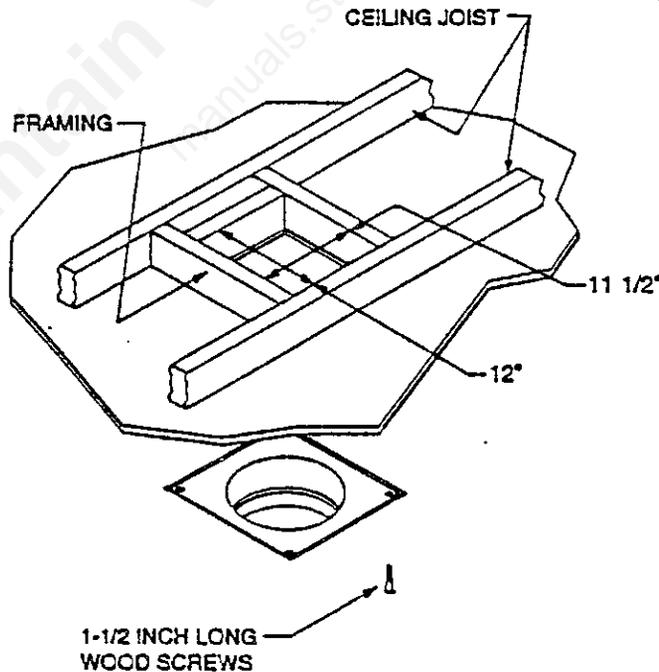
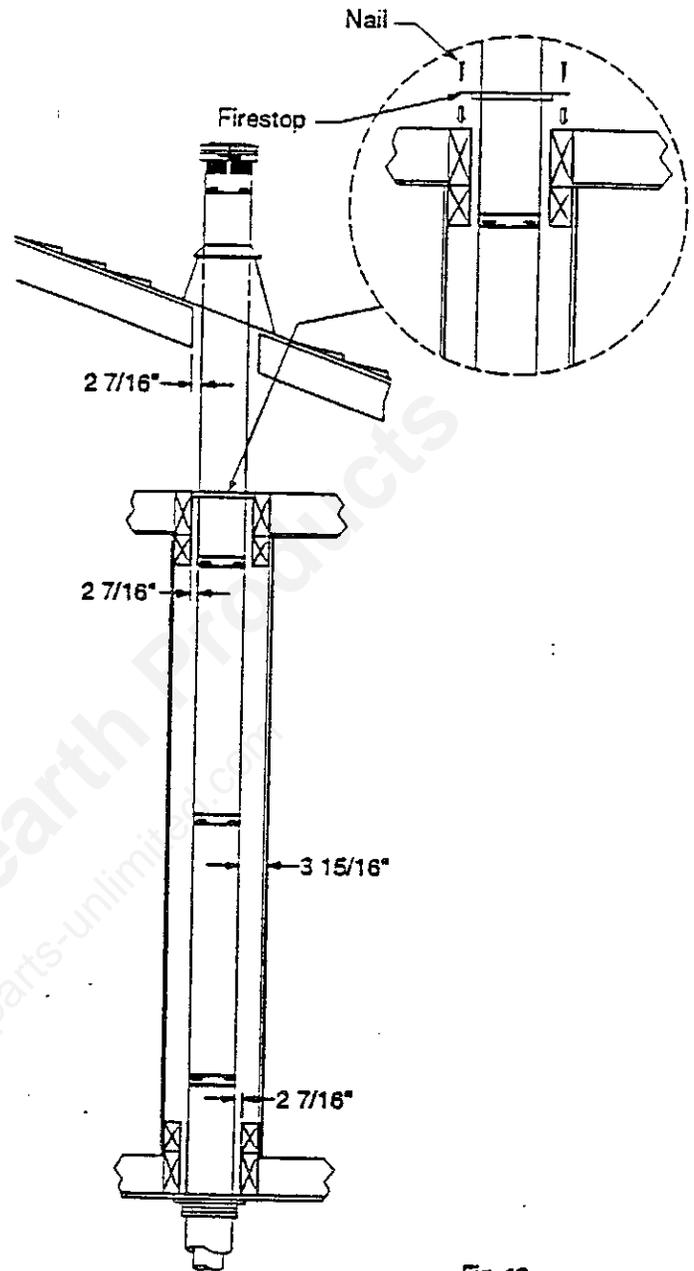

Fig. 16
Fig. 19
To install the round support box/wall thimble in a flat ceiling, cut a 11 1/2" x 12" hole in the ceiling, centered on the hole drilled in Step 1. Frame the hole as shown in Figure 16.
(1) For multi-story vertical installations, a Ceiling Firestop is required at the second floor, and any subsequent floors. (Fig. 19) The opening should be framed to 11-1/2-inch x 12-inch inside dimensions, in the same manner as shown in Figure 16, page 11.
(2) Any occupied areas above the first floor, including closets and storage spaces, which the vertical vent passes through, must be enclosed. The enclosure may be framed and sheetrocked with standard construction materials, see page 8 for minimum allowable clearance between the outside of the vent pipe, and the combustible surfaces of the enclosure. Do not fill any of the required air spaces with insulation.